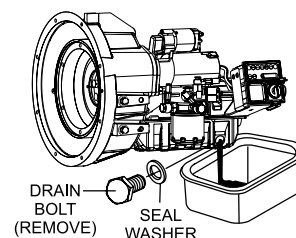

Figure 26. Draining Engine Oil
2. Set a container directly under the drain plug (Figure 26) of the oil pan. Loosen the drain plug slowly.